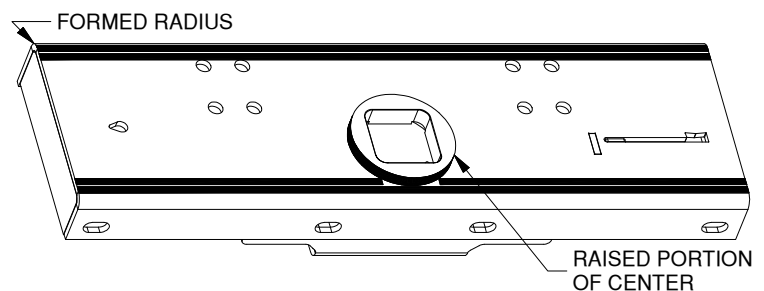

Figure B3: Polypropylene tape application.
2. Apply polypropylene tape to center section. As an added layer of protection, a roll of polypropylene tape is included in the mounting kit box. Apply the tape to the top of the center section as follows, see Figure B3: